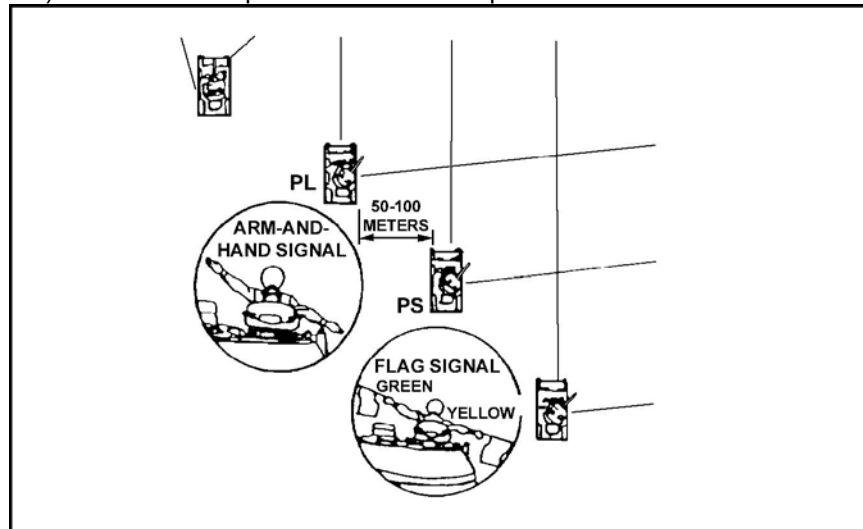

Figure 3. Echelon formation.
- c. Select the echelon formation when it is necessary to cover an exposed flank of a larger force (Figure 3). This formation permits excellent firepower to the front and to either right or left flank.